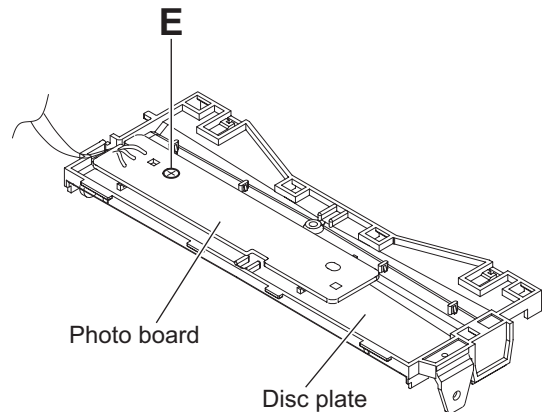

Fig.8
- From the reverse side of the disc plate, remove the screw **E** attaching the PHOTO BOARD assembly. (See Fig.8.)